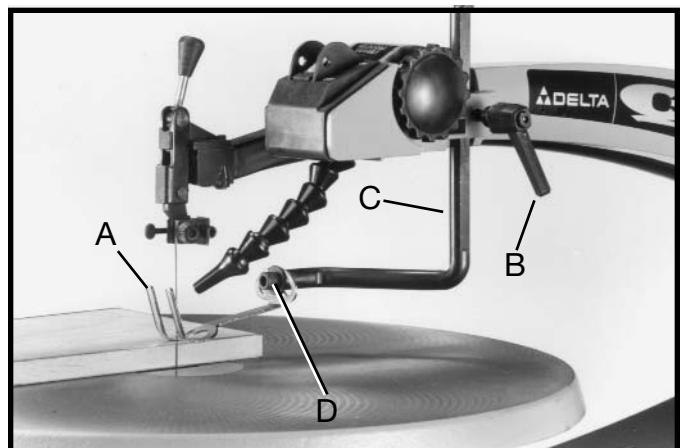

Fig. 23
1. The holddown (A) Fig. 23, should be adjusted so it contacts the top surface of the work being cut by loosening lock handle (B) and moving holddown rod (C) up or down. Then tighten lock handle (B).
2. When bevel cutting (table tilted), the holddown (A) Fig. 23, can be tilted to match the angle of the table by loosening screw (D), tilting holddown (A) and tightening screw (D).